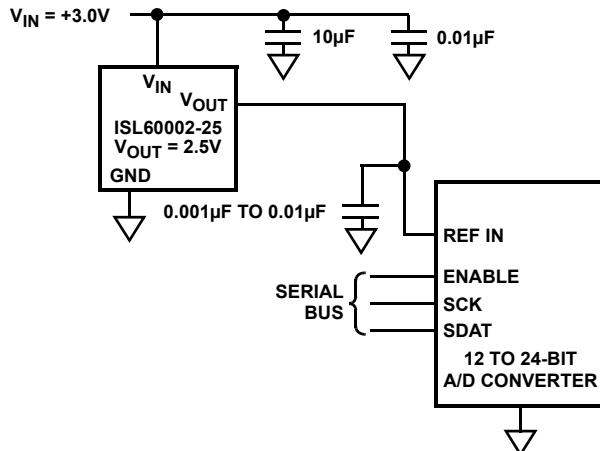

FIGURE 116.
**Figure 116.** Data acquisition circuits providing 12 to 24 bits of accuracy can operate with the reference device continuously biased with no power penalty, providing the highest accuracy and lowest possible long term drift.